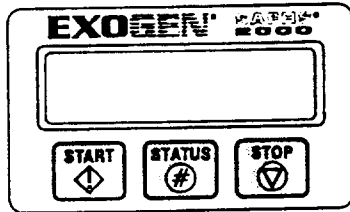

Fig. F.2
- a. Check the MOU to be sure that it is turned off. This is indicated by a blank screen on the display (Fig. F.2). If the "Start (◊)" button was accidentally pressed, wait until the display is blank.